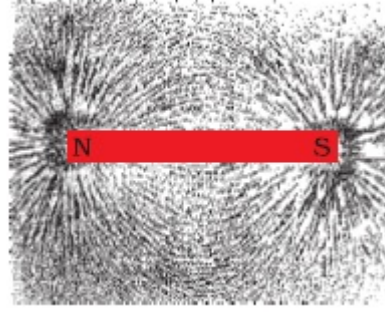

Figure 13.2 Iron filings near the bar magnet align themselves along the field lines.
- Sprinkle some iron filings uniformly around the bar magnet (Fig. 13.2). A salt-sprinkler may be used for this purpose.
The iron filings arrange themselves in a pattern as shown Fig. 13.2. Why do the iron filings arrange in such a pattern? What does this pattern demonstrate? The magnet exerts its influence in the region surrounding it. Therefore the iron filings experience a force. The force thus exerted makes iron filings to arrange in a pattern. The region surrounding a magnet, in which the force of the magnet can be detected, is said to have a magnetic field. The lines along which the iron filings align themselves represent magnetic field lines.